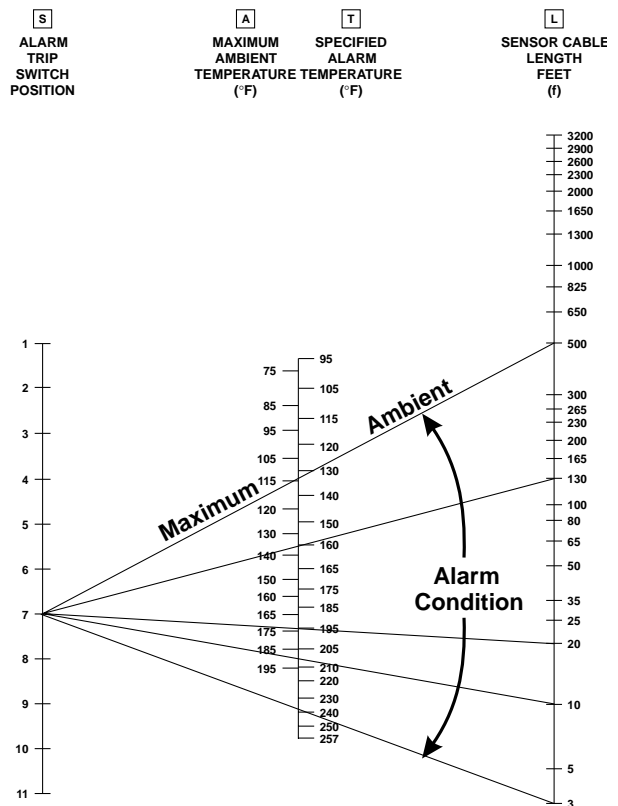

Figure 3. Example for Type "T" Cable
2. In Figure 3, a straight line is drawn from the alarm trip switch position 7 on Scale S to the 500 ft. (152 m) sensor cable length on Scale A.
1. The AlarmLine linear heat detector in this example will operate in an ambient temperature up to about 115°F (46°C) and not generate a false alarm. See Scale A in Figure 3.
2. The AlarmLine Linear Heat Detector in this example will generate an alarm if the temperature of the entire sensor length averages about 132°F (56°C) as shown where the line crosses Scale T in Figure 3. Higher temperatures would be needed to initiate an alarm over shorter sections of entire sensor length.
3. Alarm temperatures for shorter sections of the AlarmLine Linear Heat Detector in this example with 500 ft. (152 m) of sensor and the alarm trip switch set to position 7 may also be calculated. On Figure 3, draw straight lines from position 7 on Scale S to any desired length less than 500 ft. (152 m) on Scale L. According to the above example: